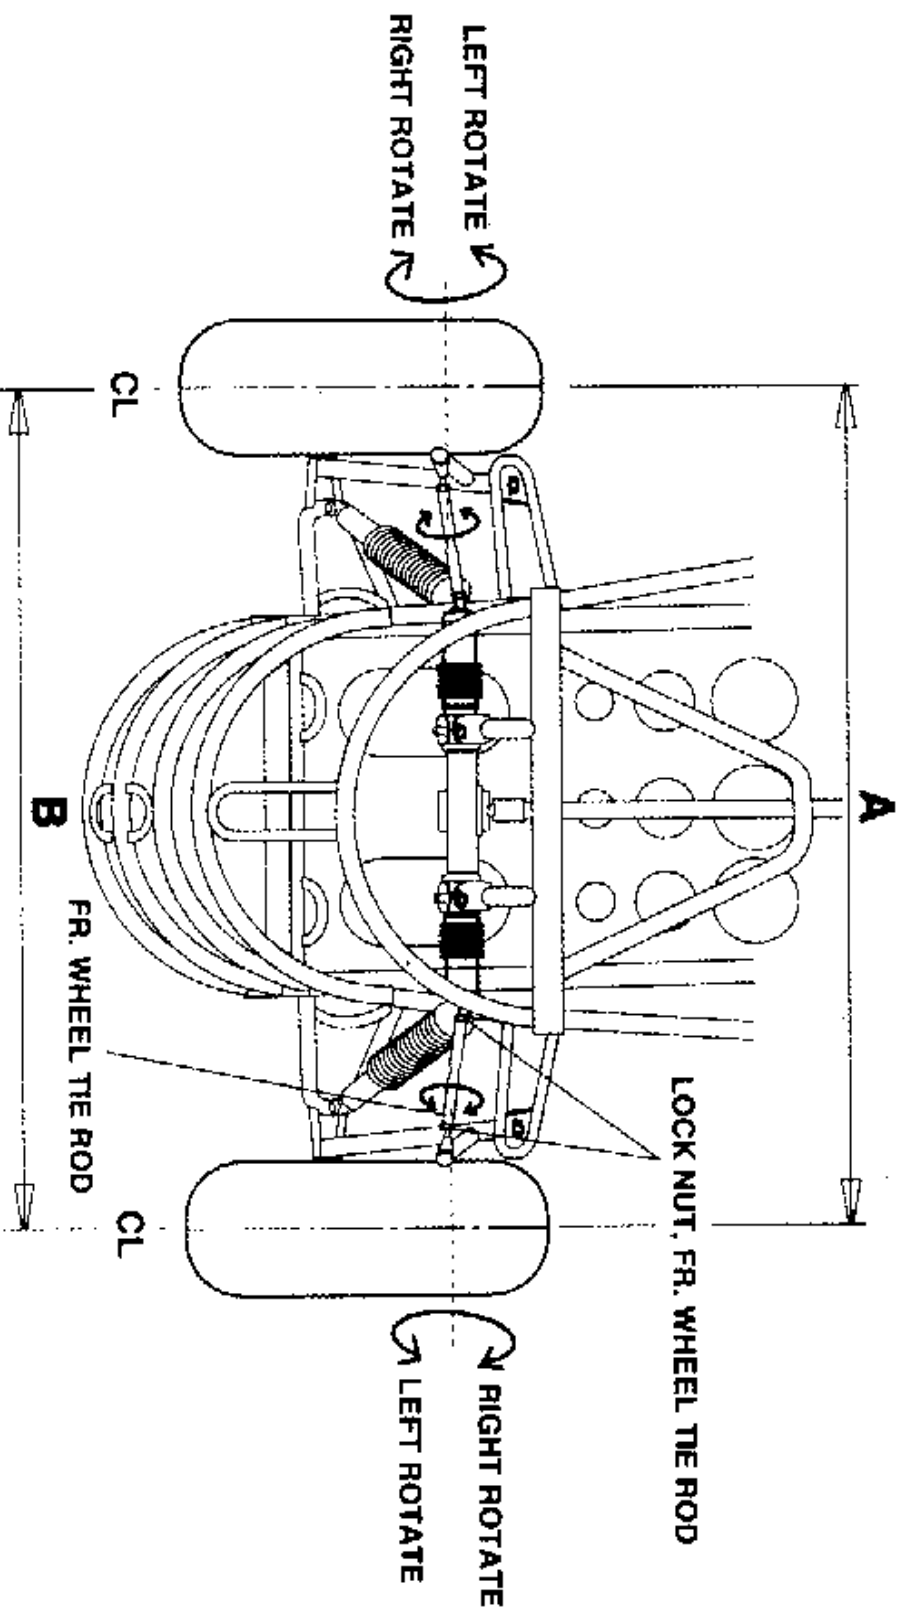

Figure 14
1. The front wheels should be "toed-in" from $1/8"$ to $1/4"$. To check alignment measure distance from A to B(Fig. 14) to the centerline(CL) of the tires with the wheels pointed straight ahead. For the proper toe-in dimension A should be $1/8"$ ~ $1/4"$ greater than dimension B.